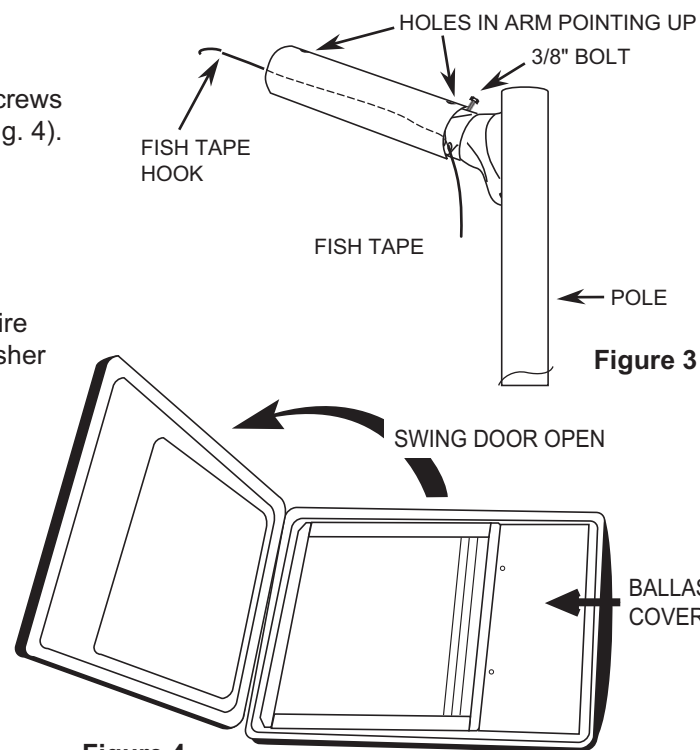

Figure 4
1. Loosen two door screws with Phillips-head screwdriver. Note: Screws are captive, do not remove completely! Swing door open (See Fig. 4).